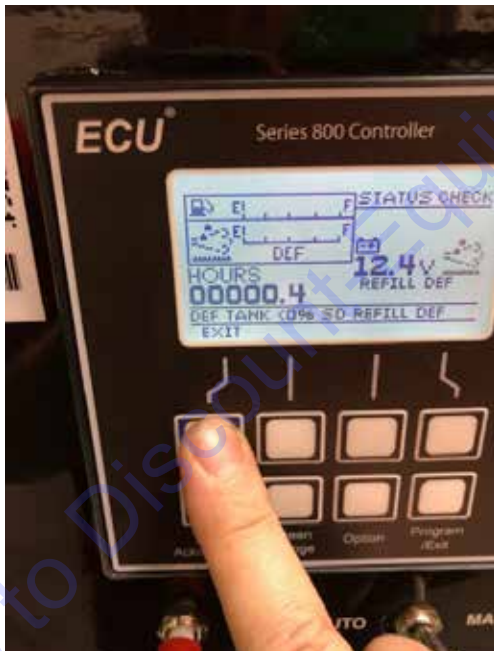

Figure 8. Exit Button
2. Press the **EXIT** button (Figure 8).